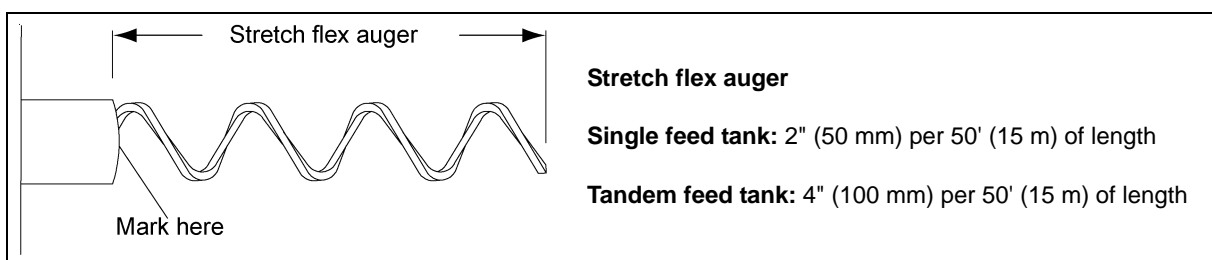

Figure 5Z Stretching the Auger
5. A certain mechanical stress must be applied when installing the auger; therefore stretching the auger is very important. This is performed by drawing the auger out of the tubing. An important factor is the total system length. The auger should be drawn out of the tubing 2" (5 cm) for every 50' (15 m) of length for single feed tanks. For tandem systems, stretch the auger 4" (10 cm) for every 50' (15 m) of length. (See Figure 5Z.)
7. Draw the auger out of the tubing as far as required. Measure the length between the mark and the unloader inlet. Mark the auger again at the unloader inlet when properly stretched. *(See Figure 5Z on Page 29.)* Stretching the auger too far will cause premature wear at the inside bends of the PVC tubing. Stretching the auger not far enough will cause premature wear at the outside bends of the PVC tubing.